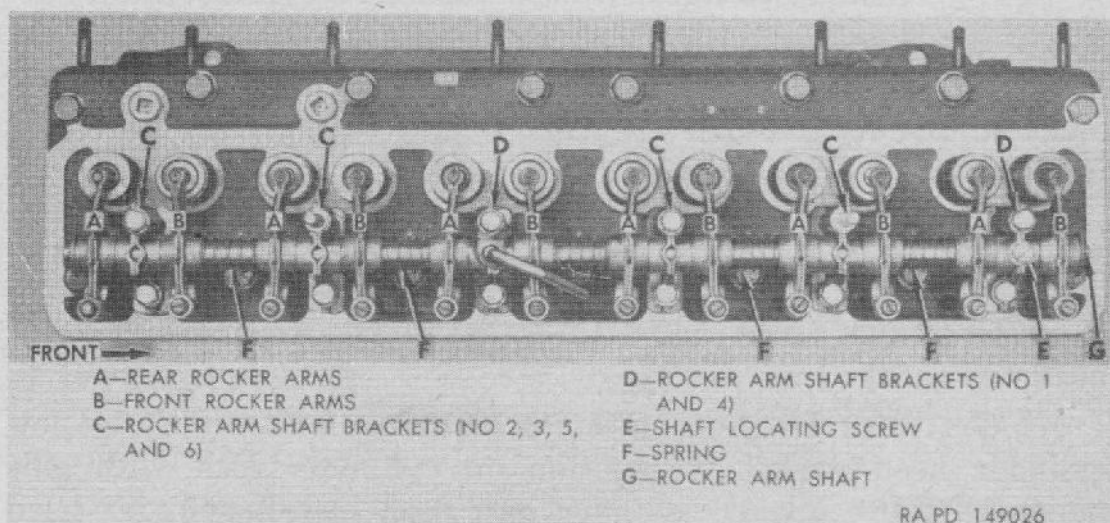

Figure 36. Valve rocker arm arrangement.
- (3) Be sure cylinder head cover studs are tightened firmly into cylinder head. Insert push rods through holes in cylinder head with cupped ends upward. Locate lower end of each push rod at valve lifter. Lay annular gasket at oil passage at front of cylinder head where rocker arm shaft front bracket seats on head.
- (4) Lower the rocker arm and shaft assembly into place at cylinder head. Fit adjusting screws in push rod sockets. Install washers and nuts on cylinder head cover studs and install bracket-to-cylinder-head bolts and washers. Tighten bolts and nuts alternately to draw brackets down evenly. Oil overflow pipe must be assembled at No. 4 bracket (fig. 36). Place overflow pipe and gasket on bracket; then install bolt with washer to retain pipe assembly.